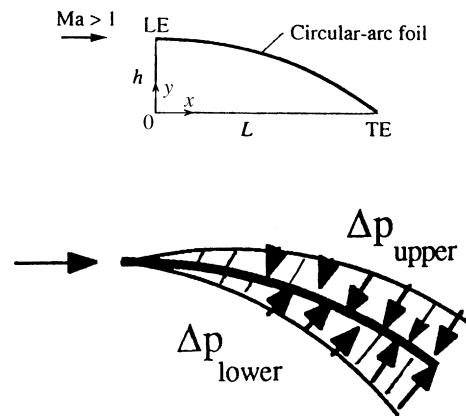

Fig. P9.156
**9.156** A thin circular-arc airfoil is shown in Fig. P9.156. The leading edge is parallel to the free stream. Using linearized (small-turning-angle) supersonic-flow theory, derive a formula for the lift and drag coefficient for this orientation, and compare with Ackeret-theory results for an angle of attack  $\alpha = \tan^{-1}(h/L)$ .